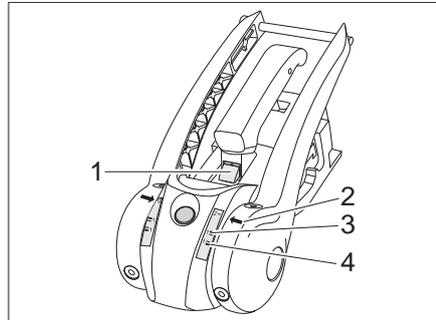

Fig. 170 Friction control of friction lining
- If the green marking (Fig. 170,1) is visible, the friction linings at the front and back are OK. If the green marking is no longer visible, the friction linings have to be replaced.
- If the arrow (Fig. 170,2) is below the softdock marking 1-green (Fig. 170,4), the friction linings on the right and left are OK. If the arrow (Fig. 170,2) is above the softdock marking 1-red (Fig. 170,3), the friction linings have to be replaced.
- If the green marking (Fig. 170,1) is visible, the coupling ball is OK. If the green marking is no longer visible, the diameter of the coupling ball < 49 mm and the coupling ball has to be replaced.